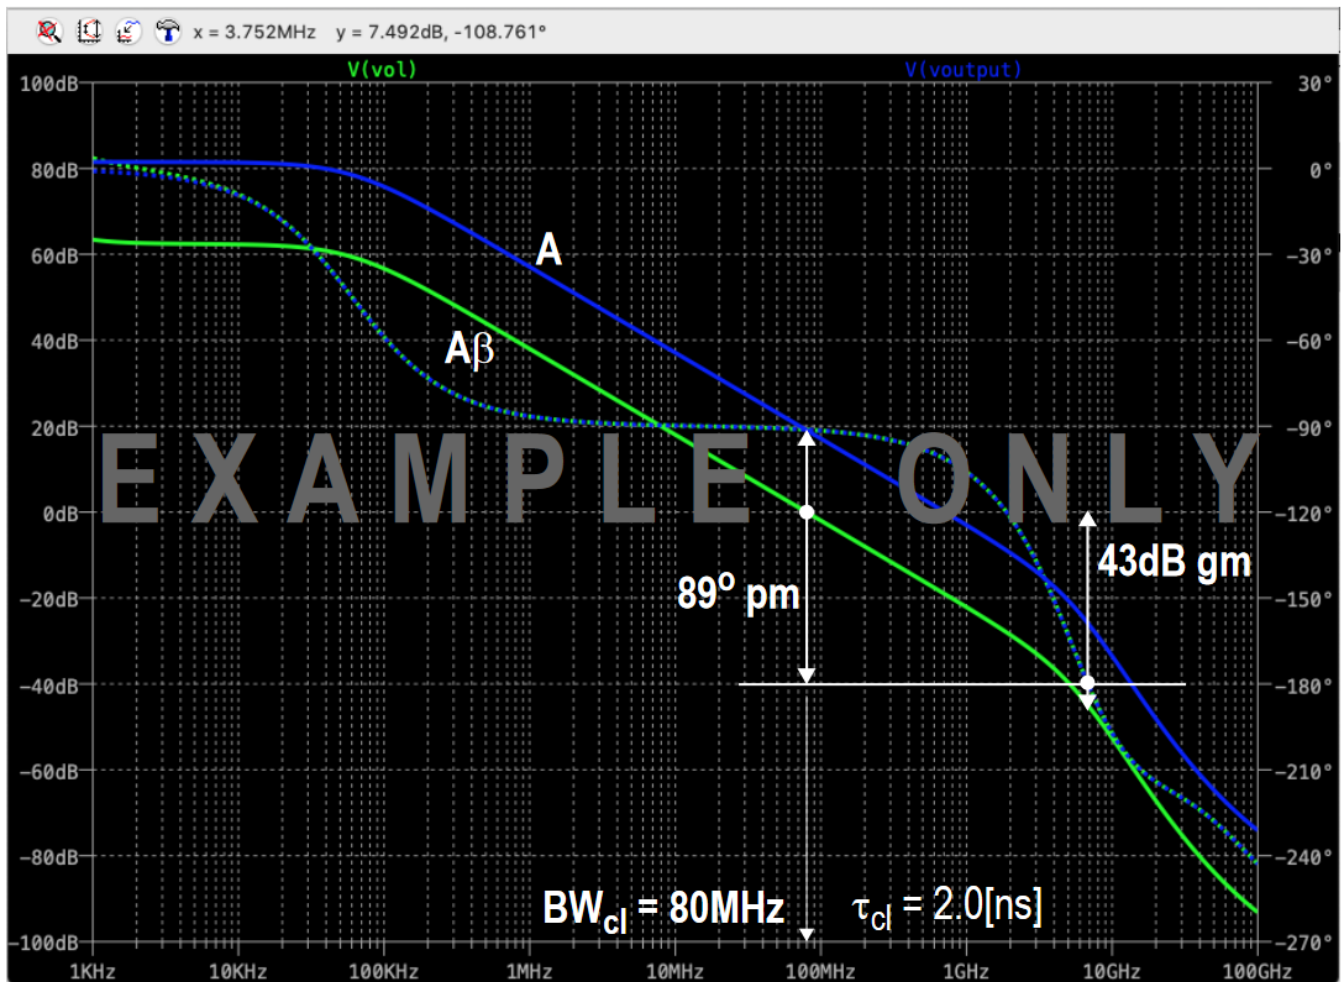

Fig.9. Bode-Diagram of A and A β .
- 4) Bode-diagram of A and $A\beta$ (including gain [dB] and phase), as shown in fig. 9. Please indicate BW_{cl} and τ_{cl} .